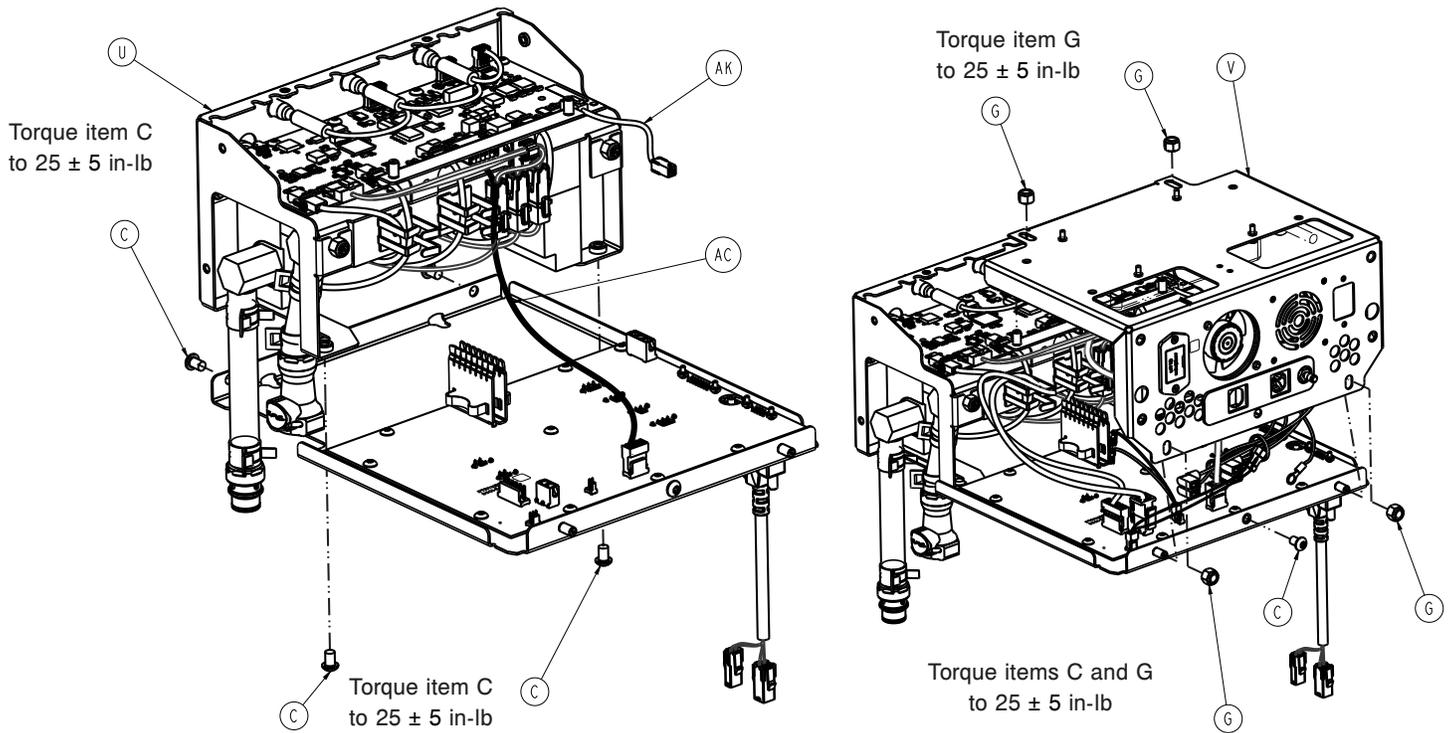

Figure 30 – Power supply
10. Using a $7/16$ " socket, remove the four locknuts (G) that secure the power supply mount to the control assembly (Figure 30). Save the locknuts.
11. Using a T27 Torx driver, remove the screw (C) that secures the power supply mount to the control assembly (Figure 30). Save the screw.